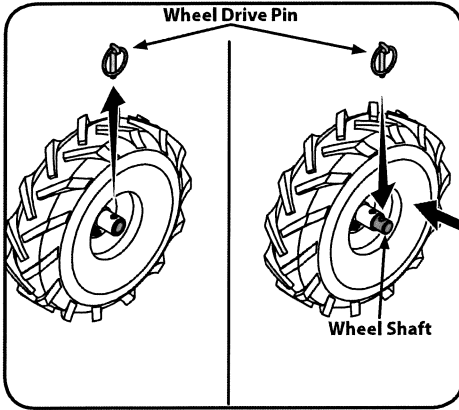

Figure 3-5
2. Remove the wheel drive pin from the wheel hub and wheel shaft. See Figure 3-5.
3. Slide the wheel fully inward on the wheel shaft. Reinstall the wheel drive pin through the wheel shaft only (not through the wheel hub). See Figure 3-5. The wheel should now spin freely (freewheel) on the wheel shaft. Repeat with the other wheel.